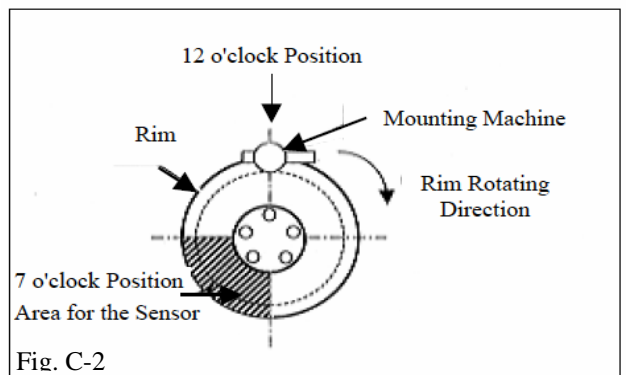

Fig. C-2
2. Position the wheel on the mounting machine with the sensor at ~ 7 o'clock position (shaded area in Fig. C-2)